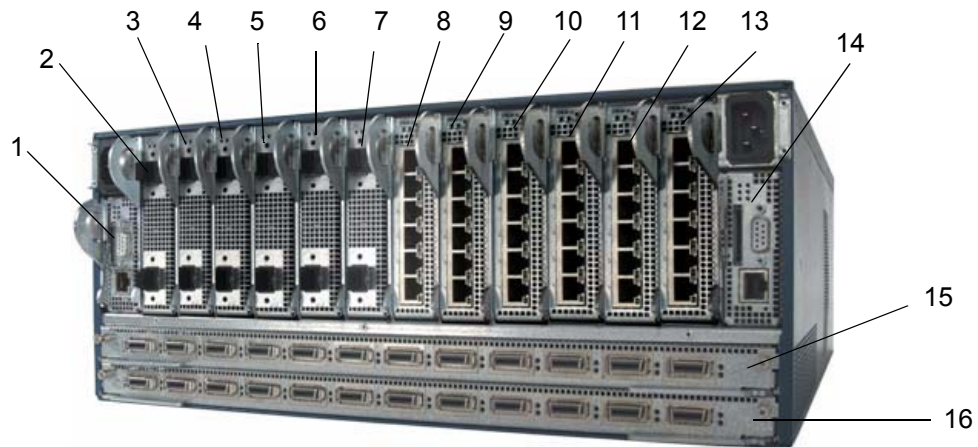

Figure 1-2: Topspin 360 Chassis - Back View (Service End) with Slot Numbers
Figure 1-2 displays the back of the Topspin 360 Server Switch and numbers the slots on the chassis.
9. View the primary software image version for all cards in the chassis, use the **show card-inventory** command. Look for the **primary-image-source** field for each slot. (The slots are described in Figure 1-2.)